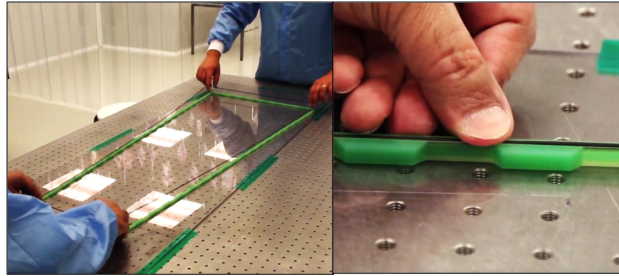

Figure 36: Placing the VITON O-ring (1).
Step 1: Place the VITON O-ring in the dedicated groove of the external frame. Gently pull the O-ring at the four corners at the same time so that it fits the trapezoidal shape of the groove (Fig. 36).